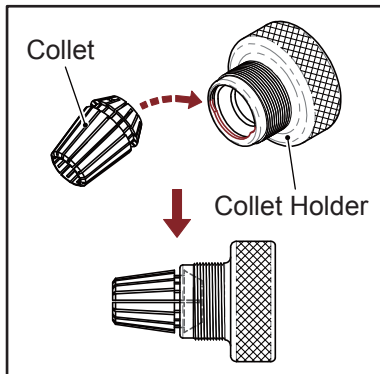

Fig. 5-1
2. Put collet into collet holder by 45° angle. (Fig. 5-1)